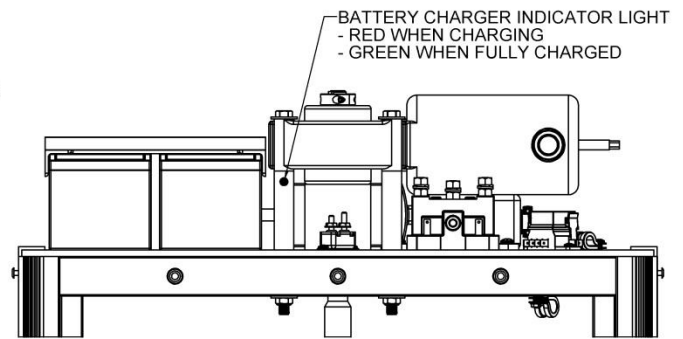
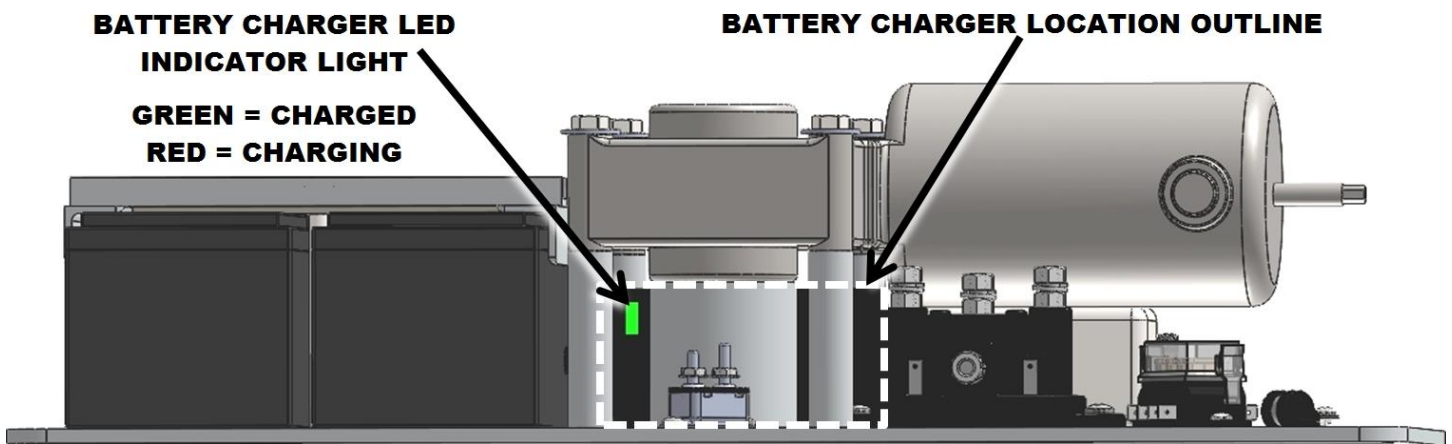

FIG. 4.15
FIG. 4.15A
31. Plug VPL into AC power, verify charger LED is illuminated. (FIG. 4.15 and FIG. 4.15A.)